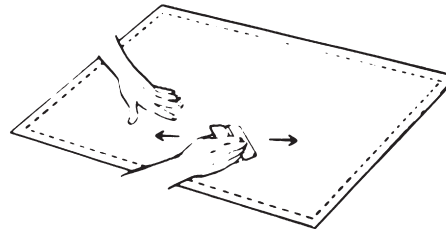

Figure 7
**C. Squeegee to tape from center out (Figure 7).**